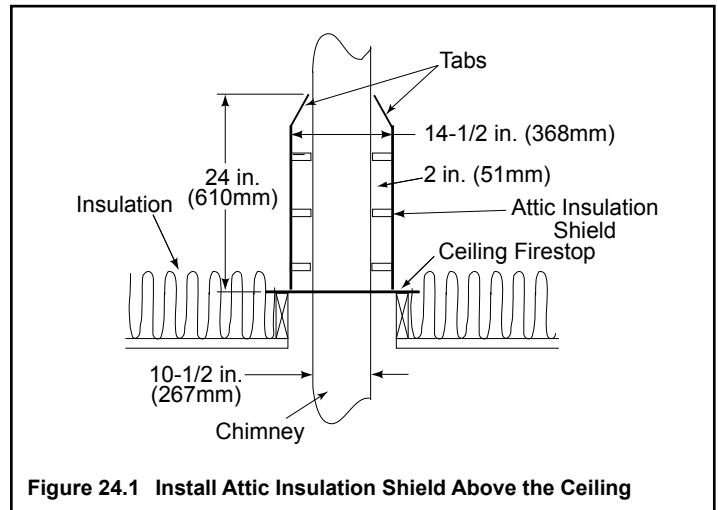

Figure 24.1 Install Attic Insulation Shield Above the Ceiling
NOTE: See Figures 24.1 and 24.2 on page 24.
- Slide the shield down until it rests on the ceiling firestop. The ceiling firestop will support the insulation shield. See Figures 24.1 and 24.2.